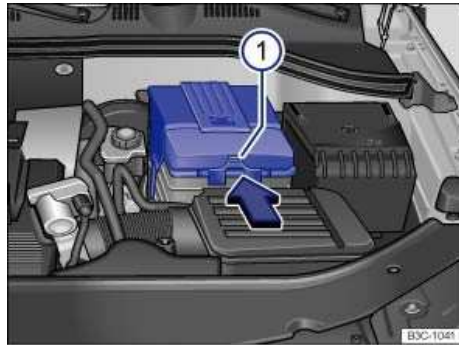

Fig. 165 In the engine compartment: On vehicles with a 2.0 liter engine, the vehicle battery is in the engine compartment.
- *Vehicles with 2.0 liter engines:* Press on the clip in direction of the arrow ⇒ fig. 165 \(1\) and remove the cover upward.